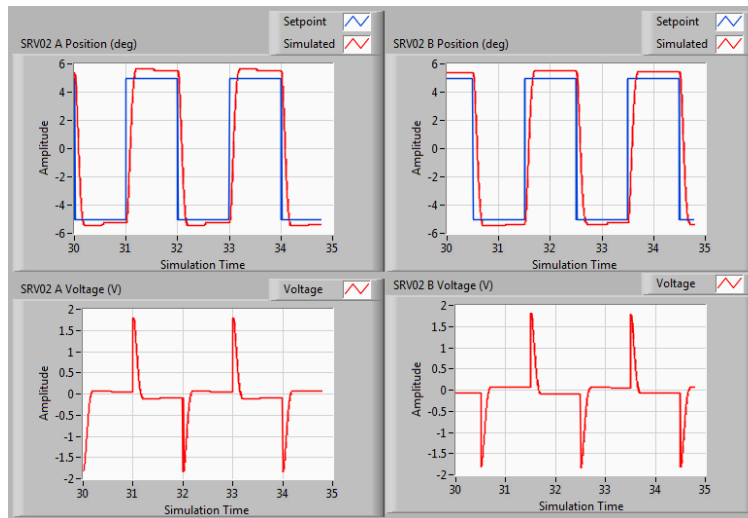

Figure 3.7: Running joint space control on 2 DOF Robot using $k_p = 10$ and $k_d = 0$
4. Run the VI. The scopes should be displaying responses similar to Figure 3.7. Note that in the *SRV02 A Position (deg)* scopes, the blue trace is the setpoint position while the red trace is the measured position.